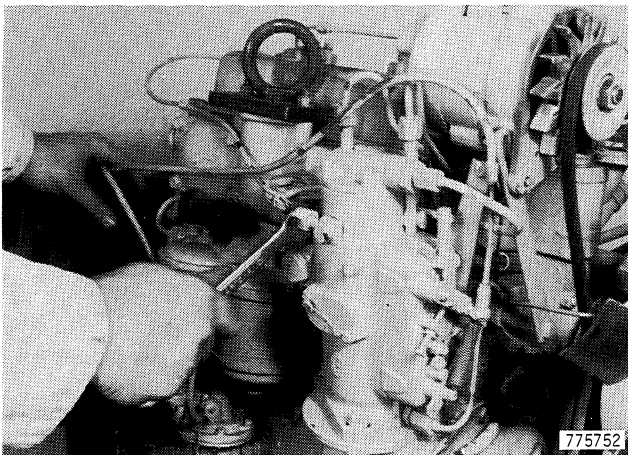

Figure 6
2. Disconnect the tube from the injection pump to number 1 cylinder, Figure 6.